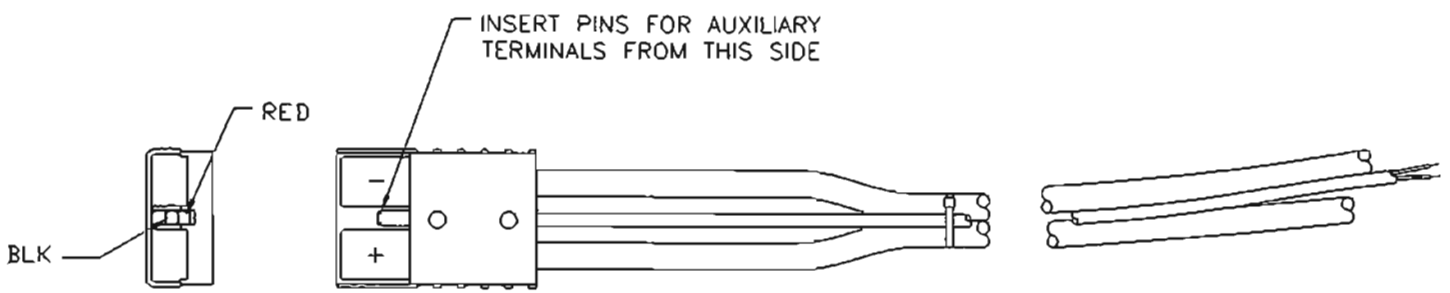

Fig. 3A
- Install the red and black auxiliary housings into the SBX connector on the charger and secure using the pins supplied as shown in Fig. 3A.